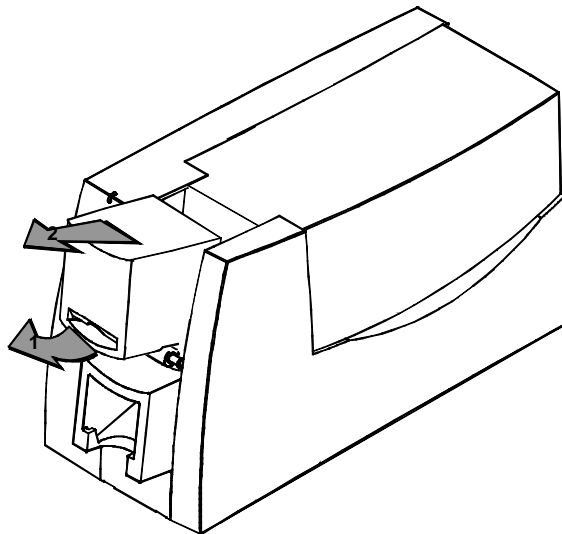

Figure 2-1: Remove the card cartridge
- 1 Pull up on the lower edge of the card cartridge (see step 1 in Figure 2-1). Lift the card cartridge up and out of the printer (step 2 in Figure 2-1).